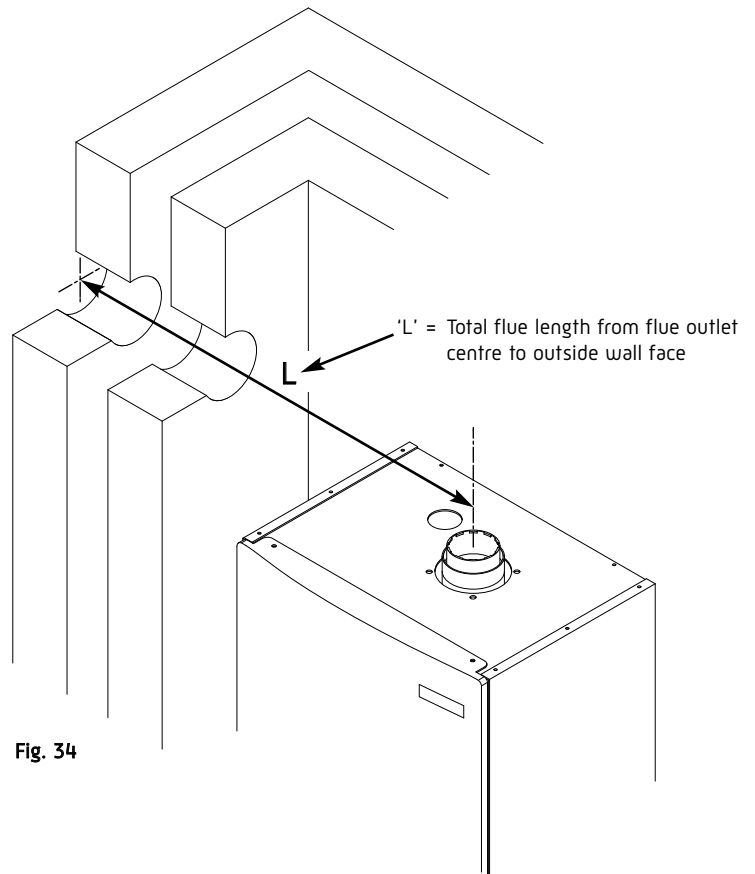

Fig. 34
2. Measure the required flue length as shown in Fig. 34. Refer to section 8 to determine whether any extension kits are required. Installations using only the standard ducts or standard ducts with straight extensions are described in this section. Installation instructions for all other flue systems are included in the various flue kits.